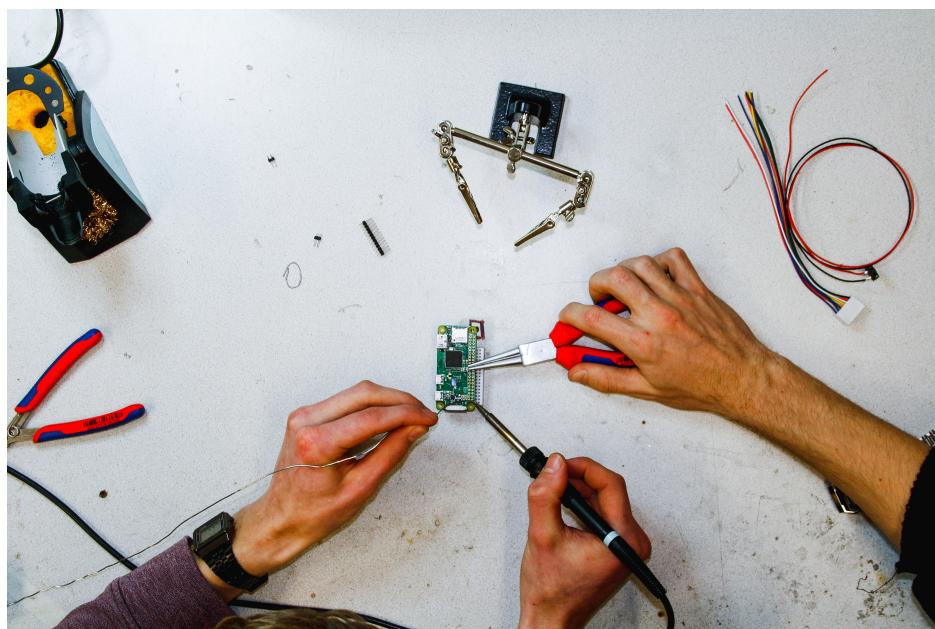

Figure 3.15: Soldering the pins
Step 2 We are going to replicate Figure 3.14. Here we will start with the large pin set of 12x2. Again pay close attention to Figure 3.14, 3.13 and Table 3.1, to where the *upward* facing pins are located. Note that the pin closest to the SD card slot (on the inside) is pin 1 and that pin 40 is at the USB connector end (on the outside). Upwards is defined as pointing the same way as all the connectors (HDMI, USB, SD, etc) on the Pi, and that downwards is thus facing the flat side of the Pi. If you plug the header pins in a breadboard, soldering straight becomes a lot easier, see figure 3.15.